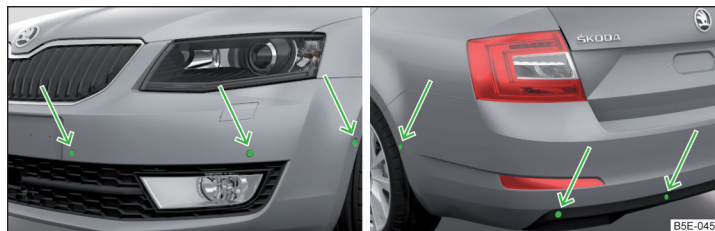

Fig. 148 Location of the ultrasonic sensors: front / rear
- Keep the system sensors » Fig. 148 on page 138 clean, and free from snow and ice, and do not cover with any objects of any kind, otherwise the system functioning may be limited.
The system uses ultrasound waves to calculate the distance between the bumper and an obstacle. Depending on the vehicle equipment, the ultrasonic sensors are located in the back or in the front bumper » Fig. 148.